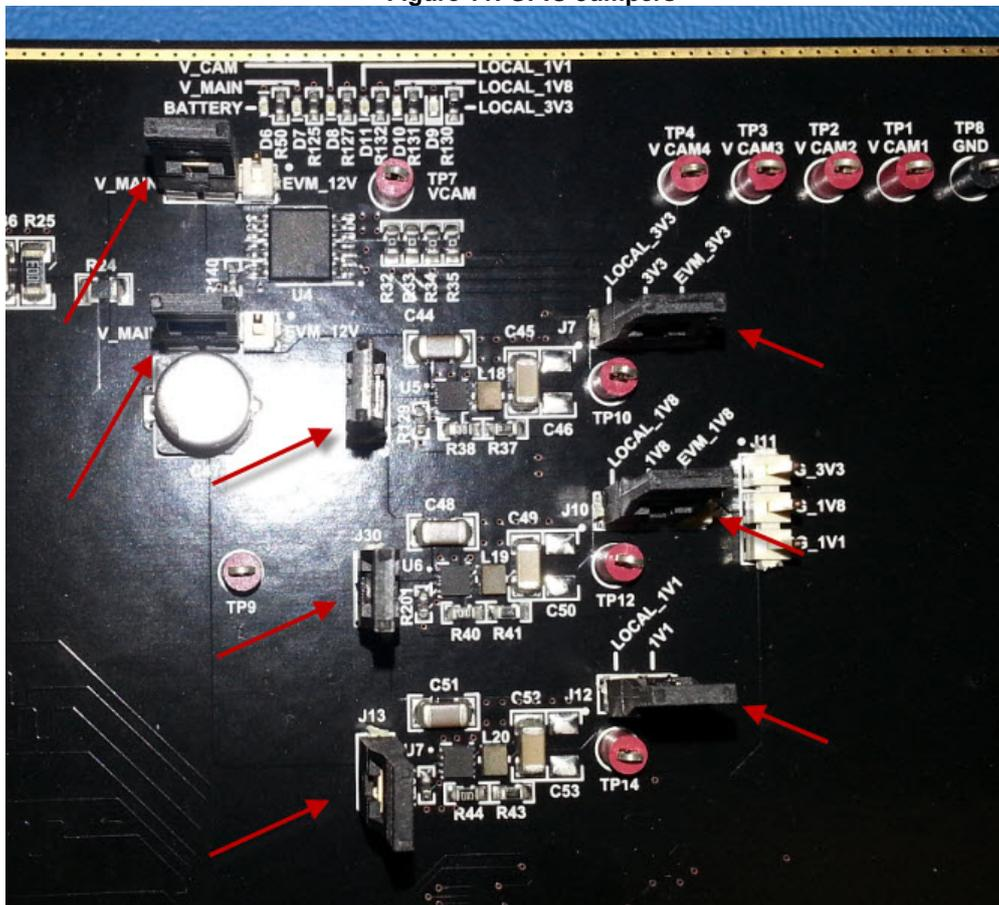

Figure 12: Power Supply Jumpers
2. Configure the power supply. Add/Verify jumpers in the following locations: (see figure 12)